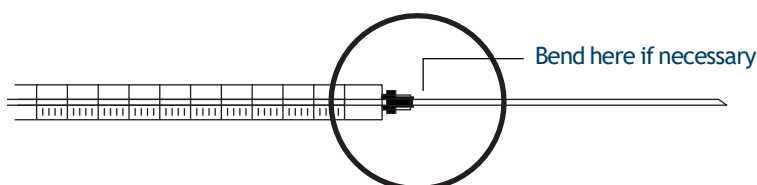

Figure 47. Inspecting the syringe
- 1 Roll the syringe on the edge of a clean flat surface. If the tip of the needle moves in a circle, straighten the shaft by bending it slightly near where it connects to the syringe barrel and check it again (Figure 47).